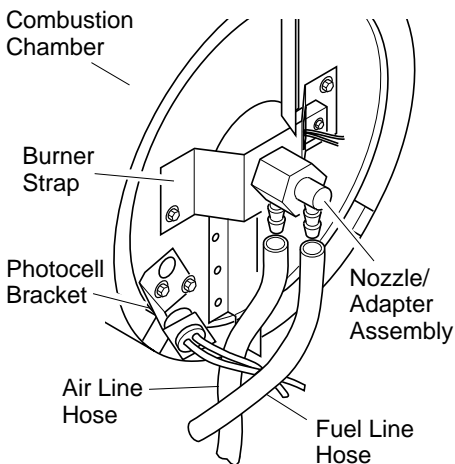
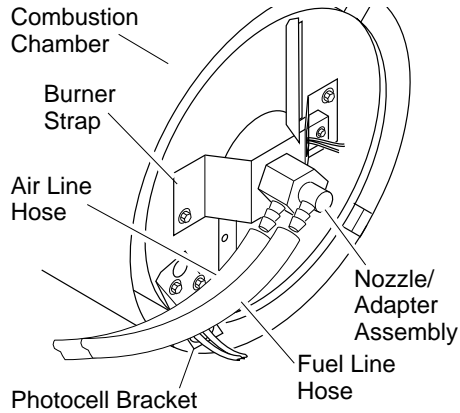
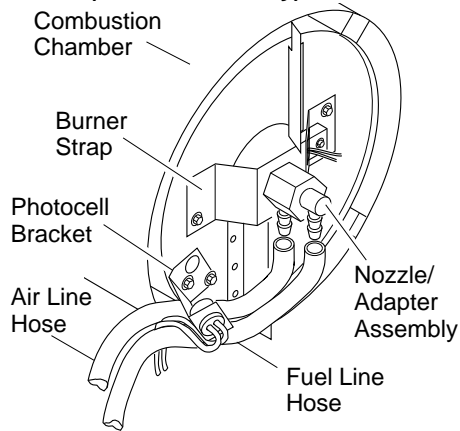
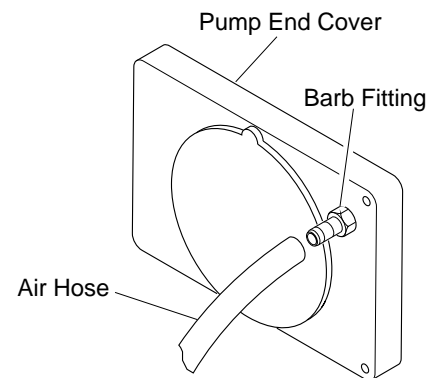

Figure 17 - Removing Air and Fuel Line Hoses (D20N Model Only)
Figure 18 - Removing Air and Fuel Line Hoses (D30N Model Only)
Figure 19 - Removing Air and Fuel Line Hoses (D44N Model Only)
Figure 22 - Air Hose to Barb Fitting
14. Replace photocell in photocell bracket. Route wires as shown in Figures 17, 18, and 19 page 11.
3. Remove fuel and air line hoses from nozzle assembly (see Figure 17, 18, or 19).
4. Inspect fuel and air line hoses for cracks and/or holes. If fuel line hose is damaged, disconnect from nozzle adapter (see Figure 17, 18, or 19) and from fuel filter (see page 8). If air line hose is damaged, disconnect from nozzle adapter (see Figure 17, 18, or 19) and from barb fitting on pump end cover (see Figure 22).
5. Install new air and/or fuel line. Attach one end of air line hose to barb fitting on pump end cover (see Figure 22) and the other end to nozzle adapter (see Figure 17, 18, or 19). Attach one end of fuel line hose to fuel filter (see page 8) and the other end to nozzle adapter (see Figure 17, 18, or 19).
Route air and fuel line approximately as shown. For D20N model heater, see Figure 17. For D30N model heater, see Figure 18. For D44N model heater, see Figure 19.